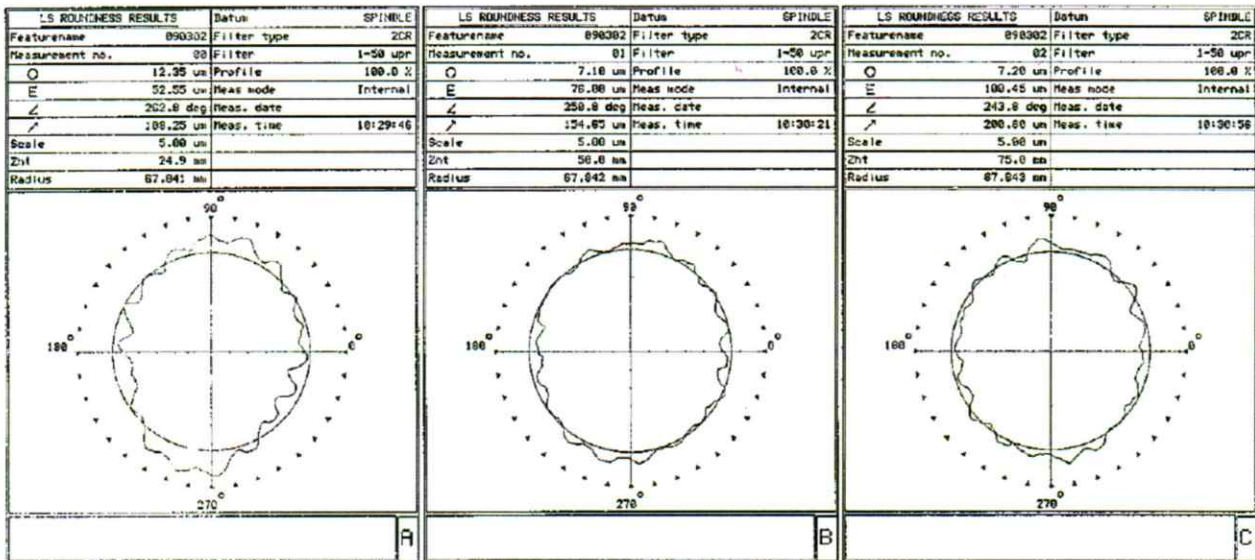

Figure 3-2-7 Measurement result of machining roundness of the workpiece
- (3) Set the measurement parameters of the roundness machine. The major measurement parameters are measurement diameter of the workpiece, cut-off value and algorithm. The measurement diameter is 80mm, and the algorithm to get the value of roundness is the least-squares circle (LSC).
- (4) After the adjustment of the center and level of the workpiece, start measuring the Machining roundness of the workpiece and record the measurement result. The measurement locations are the ones that are 25mm, 50mm, and 75mm from the end of the workpiece (that is, the machining depth 25mm, 50mm, and 75mm).
- (5) The results of machining roundness of the workpiece (as shown in Figure 3-2-7) are: